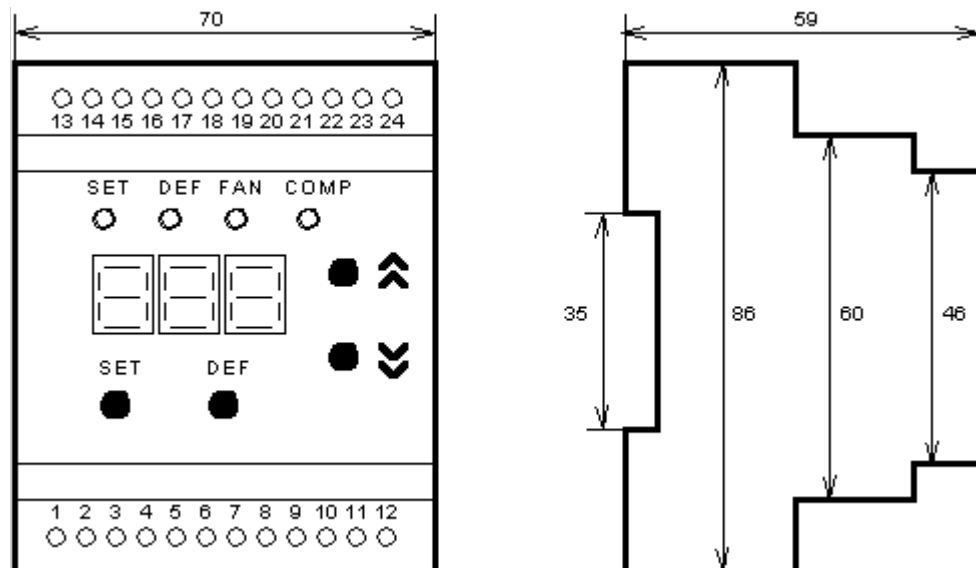

Fig. 1. MCK-301 front panel, controls and dimensions.
2.16. Operating controls and the dimensions of the device are shown on fig.1.